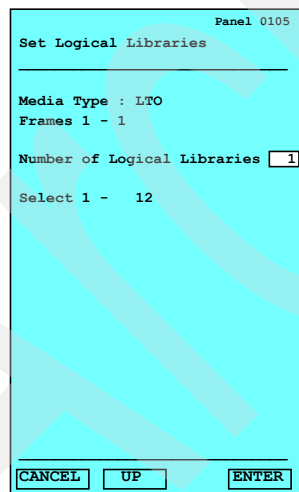

Figure 2-42 IBM TS3500 operator panel: Set Logical Libraries
7. Click **Yes** to accept the new physical configuration and to set up any logical library configurations. The Set Logical Libraries panel displays, indicating the type of media used by the logical library (Figure 2-42). The following panels do not display if the ALMS feature has been enabled.